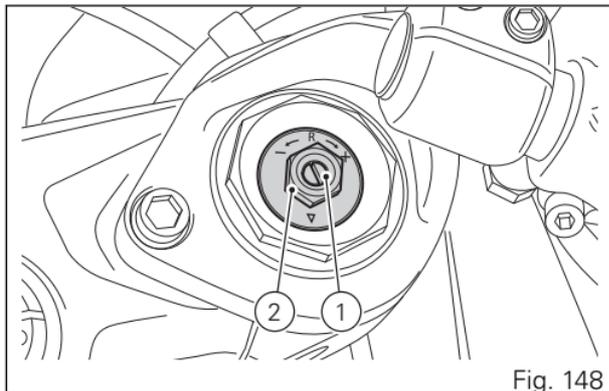
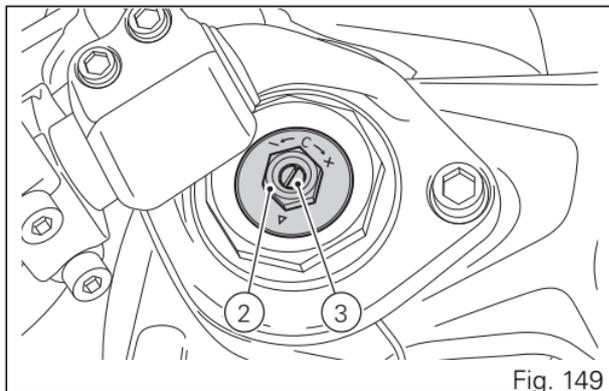

Fig. 148
Fig. 149
- 1) for rebound damping (Fig. 148);
- 2) for inner spring preload (Fig. 148) and (Fig. 149);
- 3) for compression damping (Fig. 149).
To change preload of the spring inside each fork leg, turn adjuster (2, Fig. 148) and (2, Fig. 149) with a hexagon wrench, completely counter clockwise, to obtain fully uncompressed position. From this position, adjust the spring preload by turning the adjuster clockwise. Every turn corresponds to 1 mm (0.04 in) of spring preload.